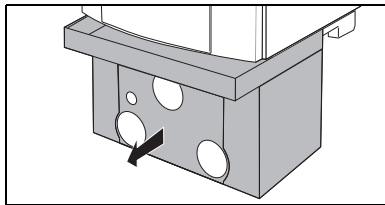

Fig. 4 Removing the lower casing
- Use only your hand to turn the gas control knob (fig. 4 on page 18). Never use tools. If the knob will not turn by hand, don't try to
- Remove the lower casing from the pump group (fig. 4).